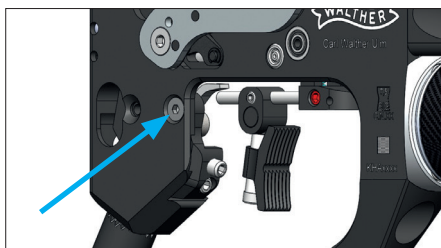

Fig. 8
2. Turn mounting screw 1 into the frame. Do not yet tighten it, because you still must position the trigger (Fig. 8).